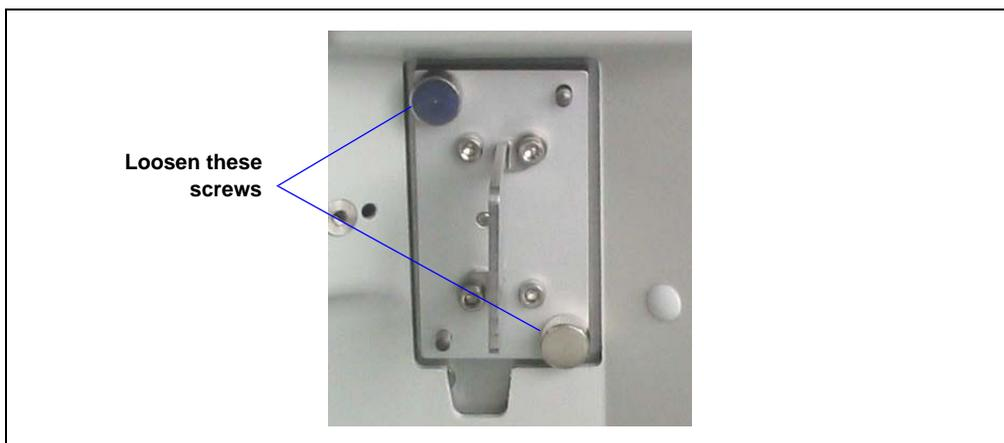

Figure B-2. Removing the Dummy Cell
2. Loosen the two screws that hold the dummy cell in position (see Figure B-2) and pull the cell out of the detector.